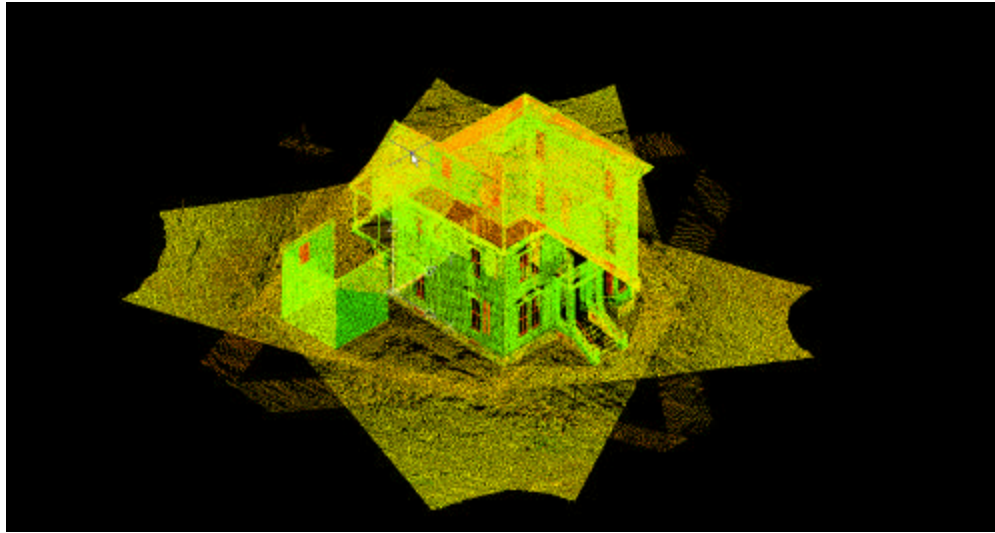

Figure 6.3.1
1. Start by viewing the house from an isometric view as shown in figure 6.3.1. Use the view tool bar and choose the view highlighted by the arrow. You may have to zoom in to get the house to fill up the screen.